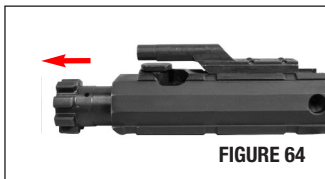

FIGURE 64
- Once the bolt carrier is clear of the firearm, move the bolt forward in the carrier to the unlocked position (FIGURE 64) and remove the firing pin retaining pin (FIGURE 65).